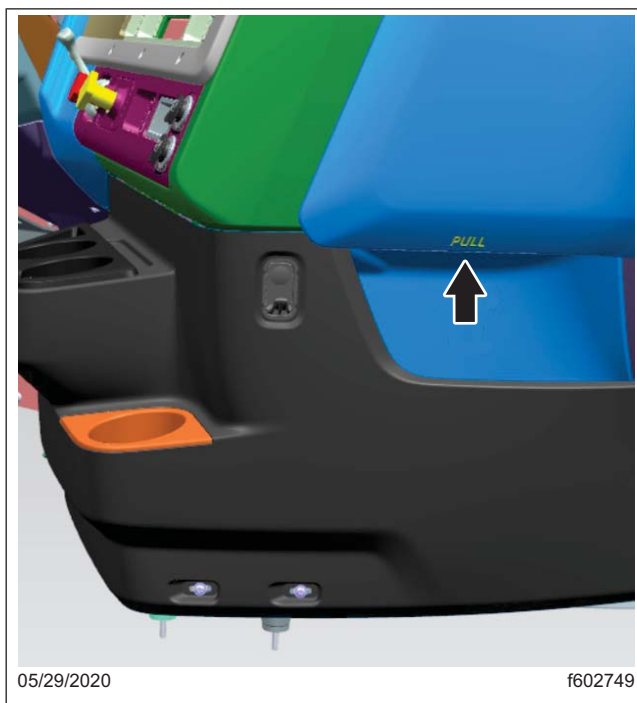

Fig. 9, Electrical Bay Cover Handhold
- 4.4 Pull the handhold at the lower left corner of the electrical bay cover, then pull the remaining clips loose from the dash. Remove the electrical bay cover. See Fig. 9.